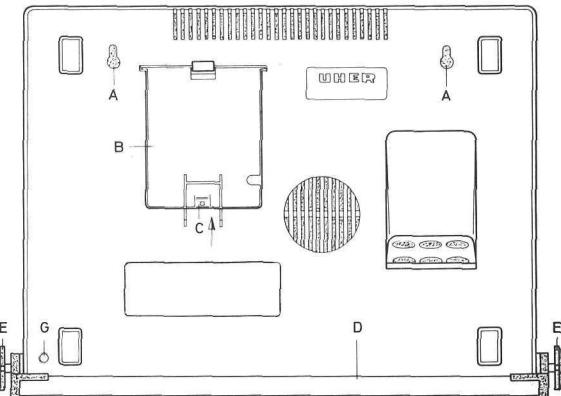

Fig. 1
The SG 561 may be operated in either vertical or horizontal position. Two holes (A) are provided on the bottom side (or rear) of the unit's housing for hanging the unit on wall hooks (see Fig. 1).
(Figs. 1 and 2)
### 1.5 Attaching the Carrying Handle (Figs. 1 and 3)